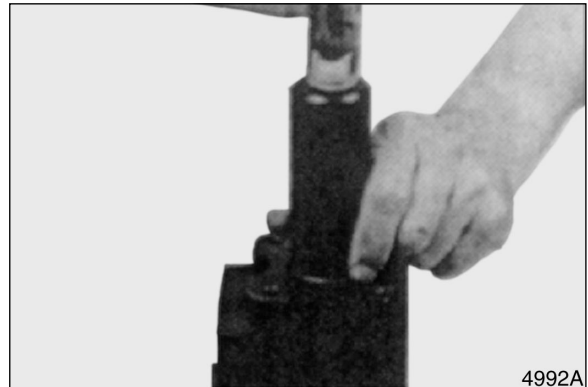

Figure 61
31. Use a seal driver and a plastic hammer to install dust seal. See Figure 61.